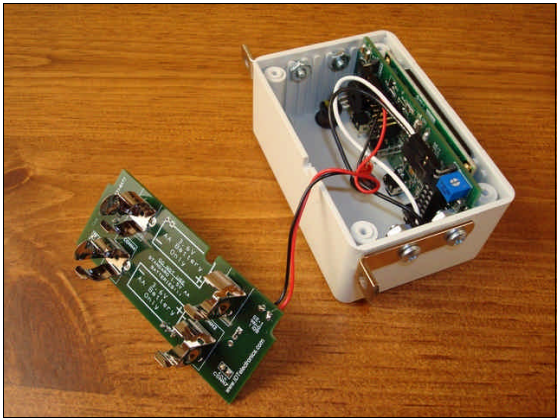
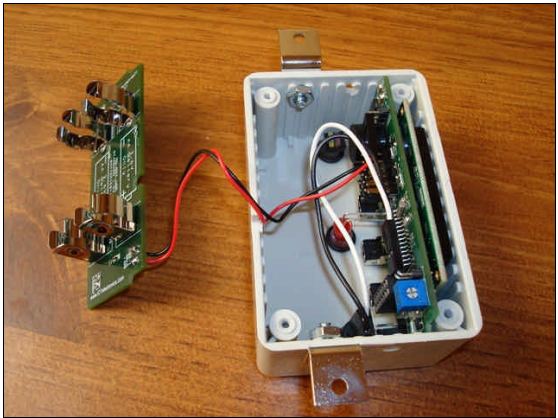

Figure 9a: EPC-IRD1 shown with “side-firing” right-angle brackets mounted to the enclosure.
Figure 9b: EPC-IRD1 shown with “front-firing” right-angle brackets mounted to the enclosure.
Attach either the “side-firing” right-angle mounting brackets (part C in the part list), as shown in **Figure 9a**, or the “front-firing” right-angle mounting brackets (part D in the part list), as shown in **Figure 9b**.
If you are attaching the “side-firing” brackets, then you will use two #6-32 x 0.375” Phillips machine screws (part ‘G’ in the part list) and two #6-32 hex nuts (part ‘H’ in the part list). The hex nut should be located inside the enclosure, as shown in **Figure 9a**.
If you are attaching the “side-firing” brackets, then you will use one #6-32 x 0.375” Phillips machine screw (part ‘G’ in the part list) and one #6-32 hex nut (part ‘H’ in the part list). The hex nut should be located inside the enclosure, as shown in **Figure 9b**.
**Note:** The next two steps (**Step 4** and **Step 5**) are for the optional EPC-IRD1e Infrared Emitter. So, if you are using the EPC-IRD1e, simply put the EPC-IRD1 off to the side for now, with the battery circuit board left outside of the enclosure, just as is shown in **Figure 9a** and **Figure 9b**. If you are not using the optional EPC-IRD1e, then you can go directly to **Step 6**.